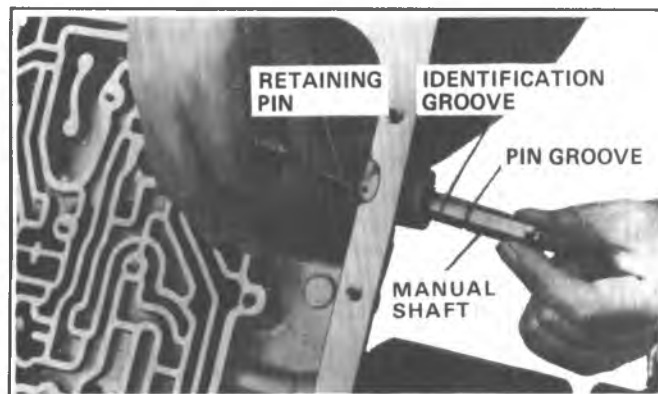

Figure 7A1-67 Installing Manual Shaft Into Case
3. Position speedometer gear, larger chamfered inside diameter first, over rear end of output shaft. (Figure 7A1-71).